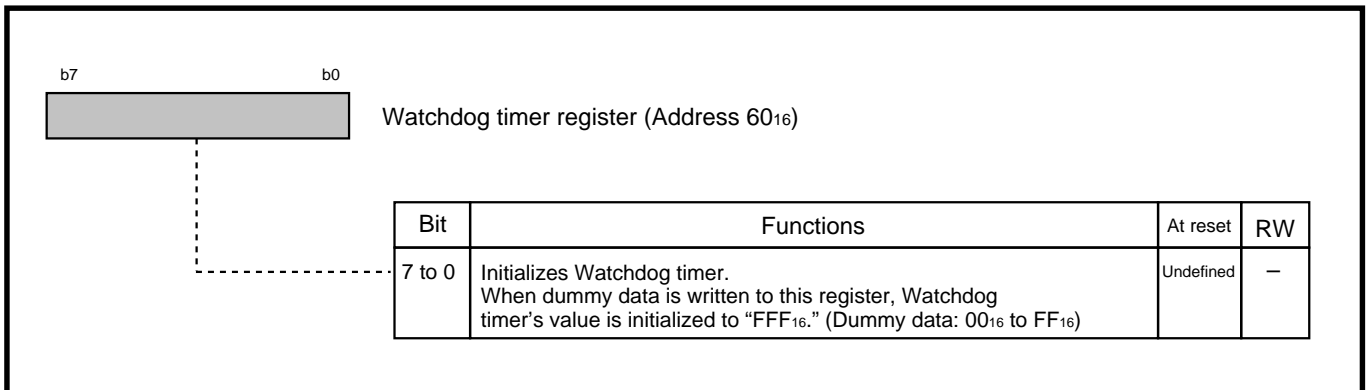

Fig. 15.1.2 Structure of watchdog timer register
- When dummy data is written to the watchdog timer register (Refer to “Figure 15.1.2.”)